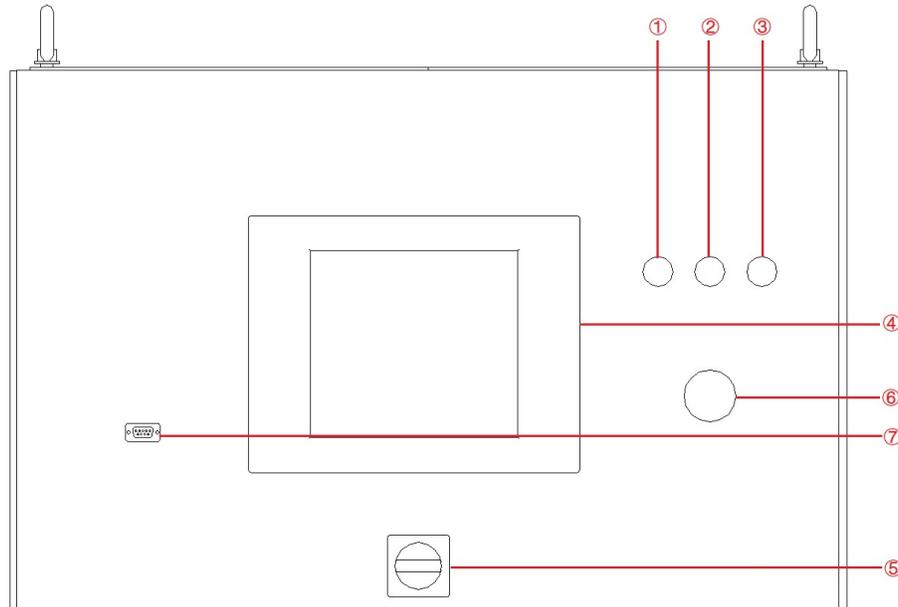
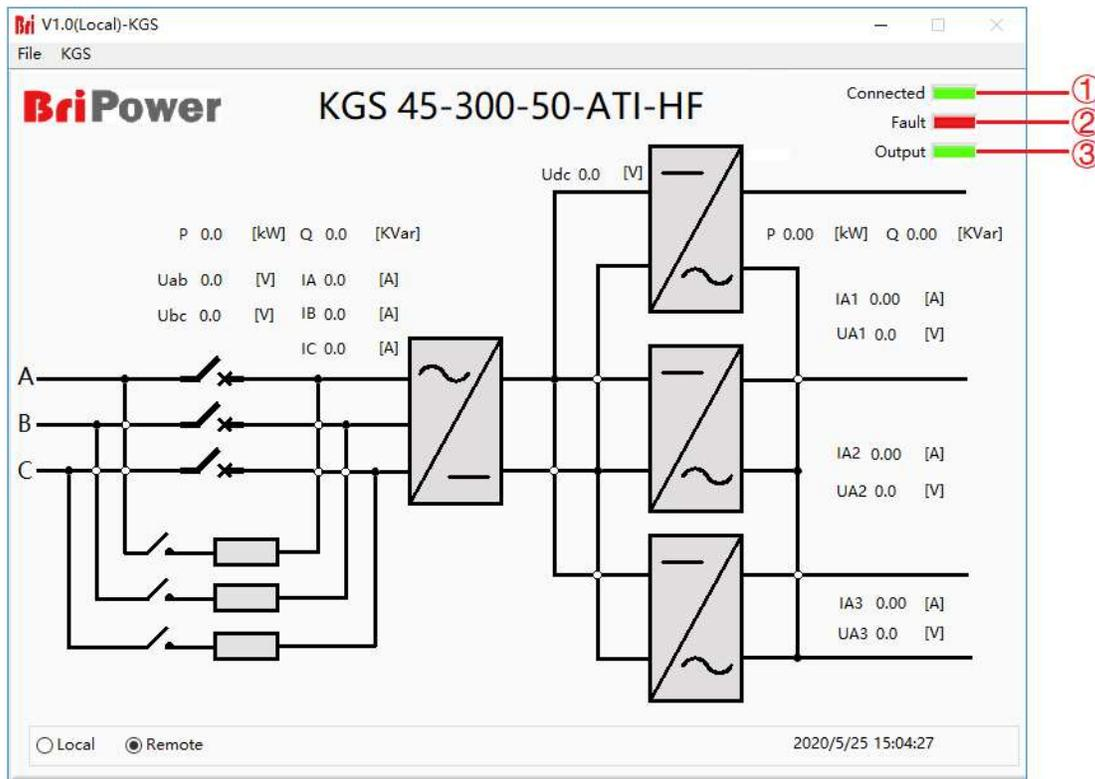

Figure 3-3 Front Panel
Figure 5-1 Main panel
Turn clockwise to close the control switch on front panel (figure 3-3⑤) after closing the cabinet door, the power supply is standby. If the power supply communication connection is normal, the white light is always on (figure 3-3①).
KGS series provides GUI software, which is installed on the front touch screen using the windows OS. (the software can also be installed on the control PC connected to the power supply). A few seconds after the power supply is initialized, the control unit and touch screen work, the power supply is standby. If the power supply communication is normal, the white light (Figure 3-3①) and the “connected” green light (Figure 5-1①) is always on. All functions and parameters can be accessed through the TFT-Touch panel or GUI software to set up and run.
Output On	It is used for the output side on/ off, the button is green while outputting, and the green indicator of "Output" is always on (Figure 5-1③). When there is no output, the button becomes red.